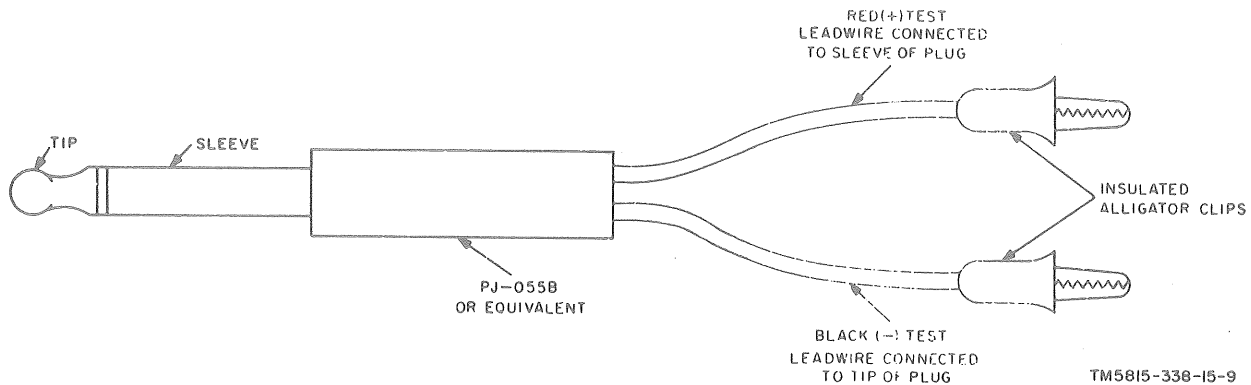

Figure 4-1. Test leads connected to standard two-conductor teletypewriter plug.
- (1) Two test leads connected to a standard two-conductor teletypewriter plug (fig. 4-1).
- (2) Trichloroethylene.
- (3) Protective coating EC1103.
- (4) Naptha.
- (5) Toggle switch SPST, FSN 5930-655-1514.
- (6) Female receptacle, FSN 5935-257-8695.
- (7) Male plug, FSN 5935-552-7026.
- (8) Resistor, 2,200-ohm, 10-watt, FSN 5905-549-5629.
- (9) Resistor, 270-ohm, 1-watt, FSN 5905-279-1559.
- (10) Power supply capable of delivering 150 volts dc at 100 ma.